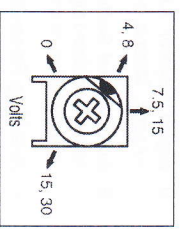

FIGURE 30 – IR TRIMPOT RANGE
I. IR Compensation (IR) – Sets the amount of compensating voltage required to keep the motor speed constant under changing loads. The IR trimpot is factory set for 4 Volts (for 90 Volt DC output) and 8 Volts (for 180 Volt DC output), as shown in Figure 30. For higher compensating voltage, rotate the trimpot clockwise. For lower compensating voltage, rotate the trimpot counterclockwise.